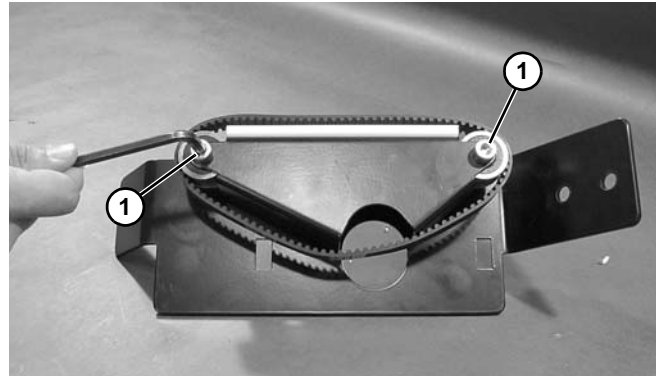

**Figure 159**
5. Loosen set screws (**Figure 159, item 1**) and remove pulley (**Figure 159, item 2**).